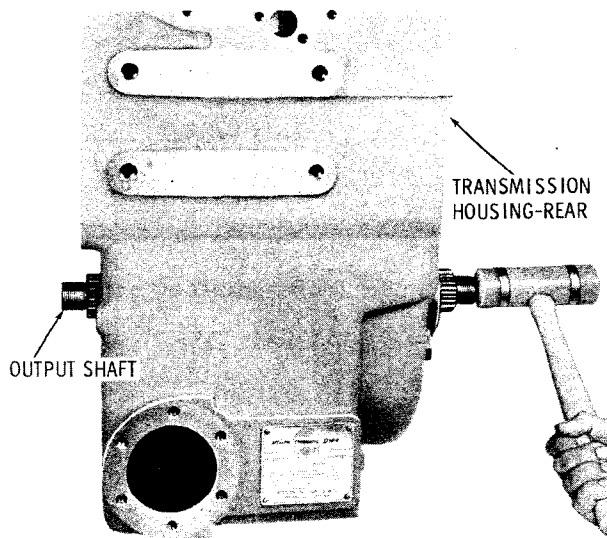

Fig. 5-35. Loosening one-piece output shaft front bearing
(3) Using a soft hammer, drive the output shaft forward until the front bearing is free from the housing bore (fig. 5-35).